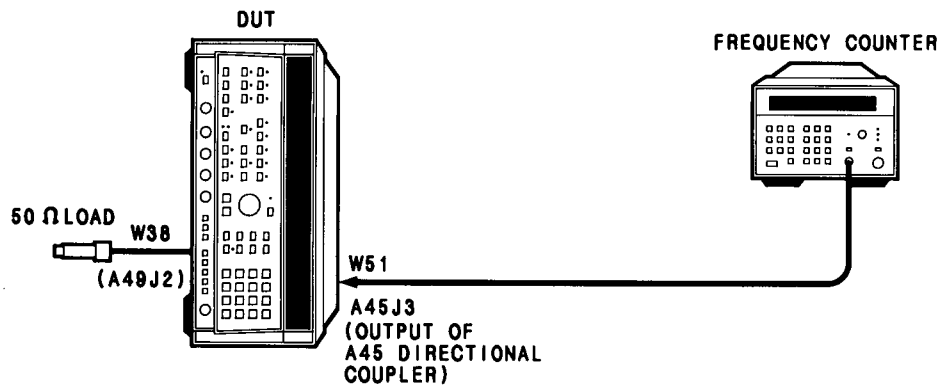
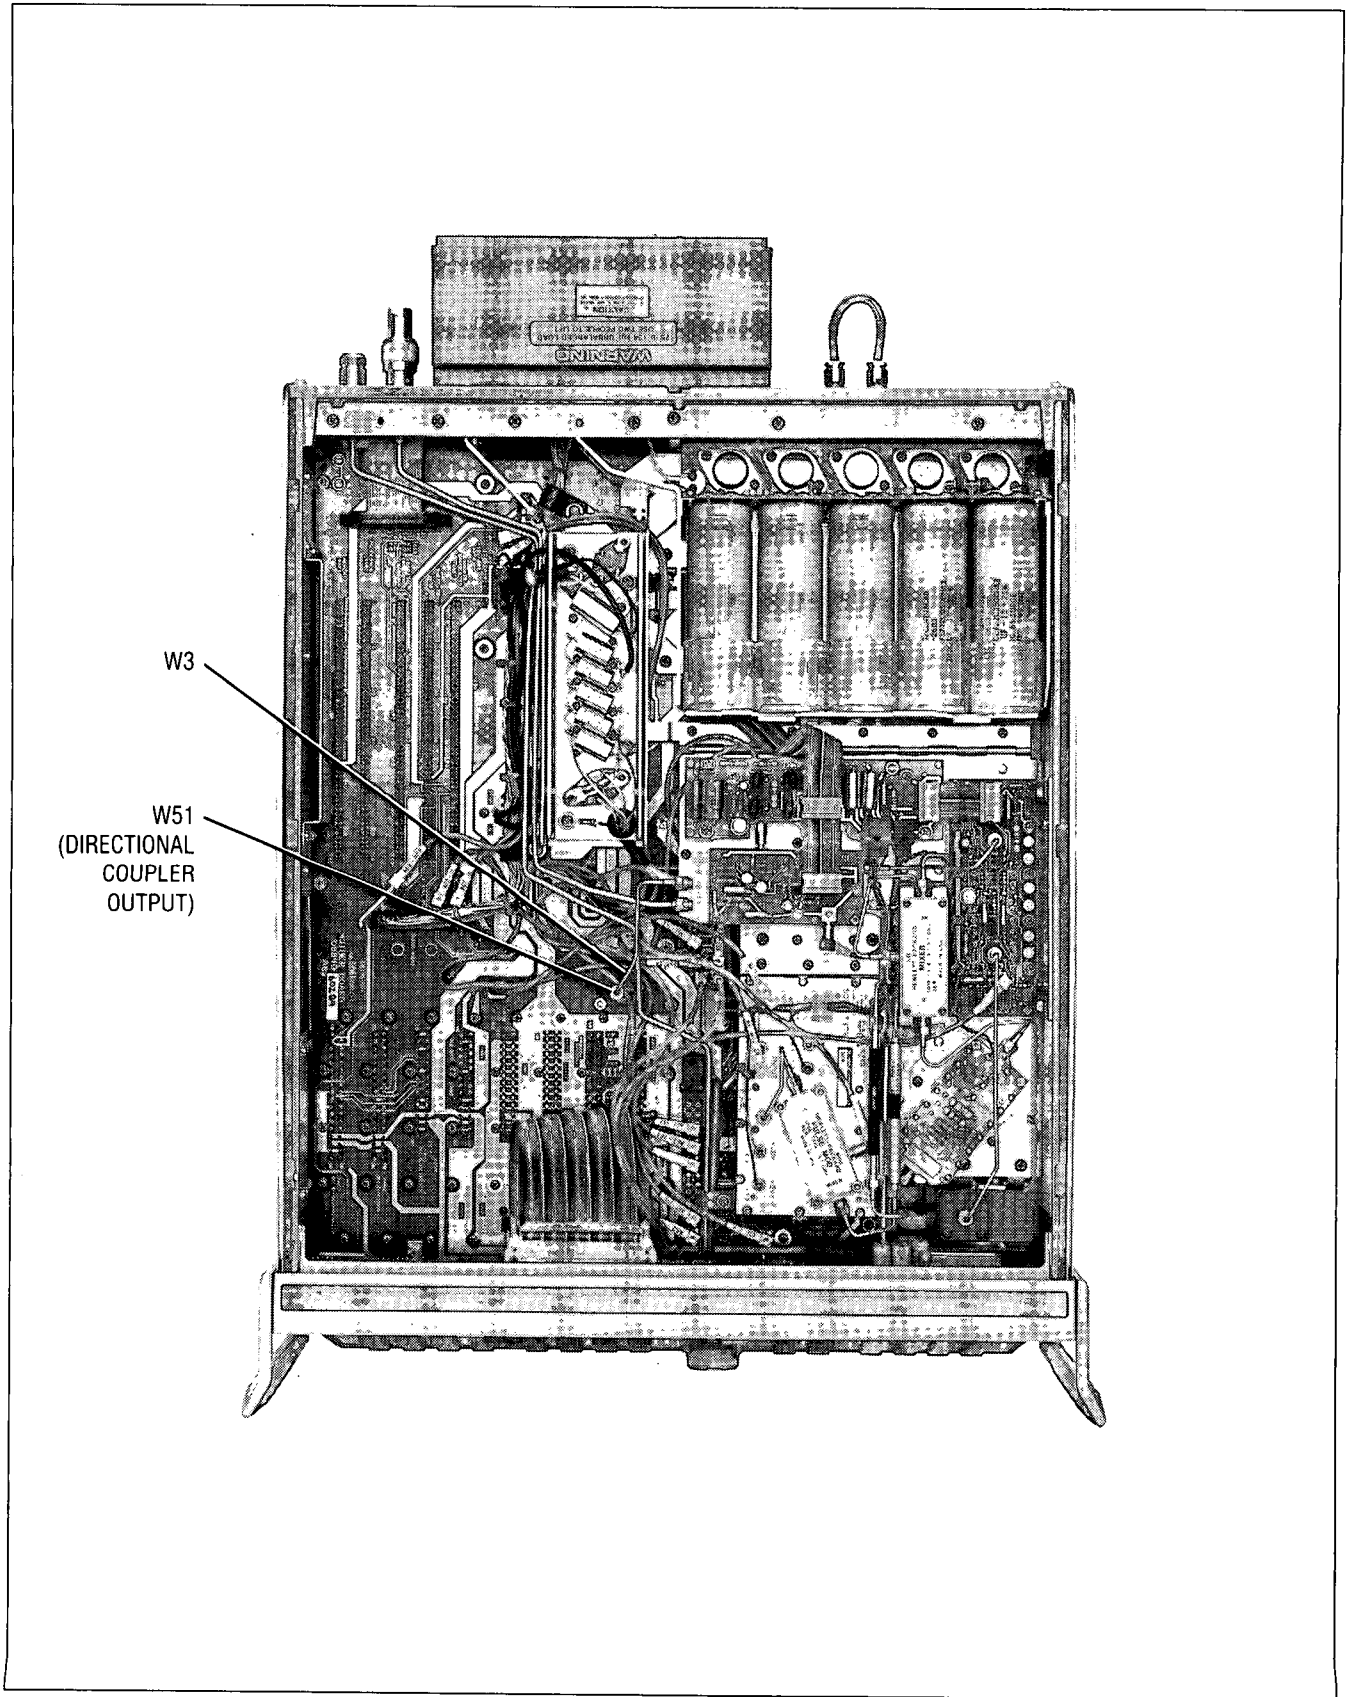

Figure 5-15. YO Main Driver A55 Test Setup
Figure 5-17. Top View, Cable Location
1. Position the DUT in the test position as shown in Figure 5-15 with top and bottom covers removed. Remove W3 (Figure 5-17) and connect the frequency counter to W51 as shown in Figure 5-15. Allow one-half hour for warm up time.
- Disconnect the frequency counter and reconnect W3 to W51 (Figure 5-17). Remove 50 Ohm load from cable W38 and reconnect the cable to A49J2.